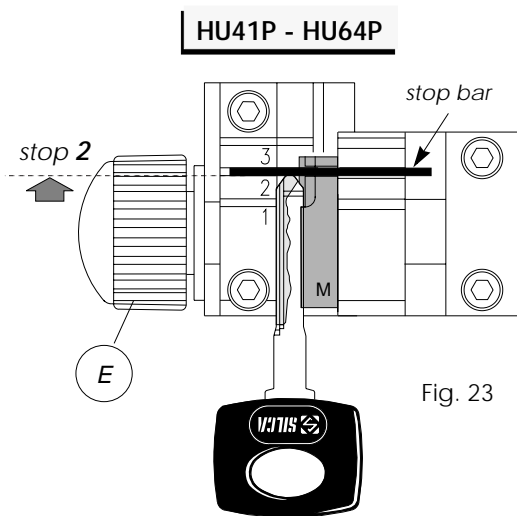

Fig. 23
- open the clamps by loosening knobs (E) and (E1).
- place the adapter on the left-hand jaw and align the notch with "stop 2" (Fig.23).